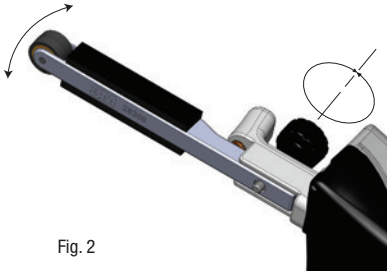

Fig. 2
1. While the tool is running, turn the Tracking Knob to the left or right, so the abrasive belt runs centered over contact arm wheel. (See Fig. 2.)